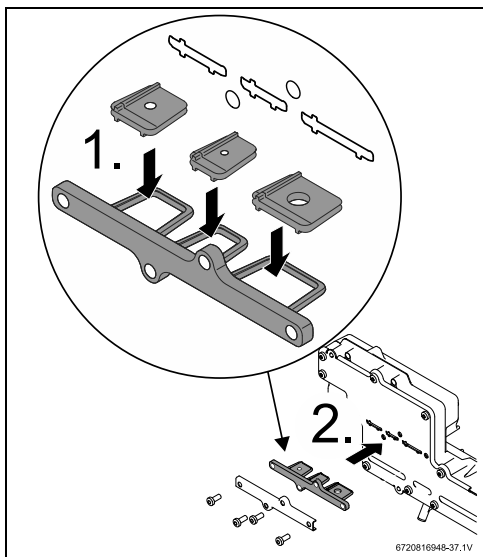

Fig. 49 199kBTU appliance gas conversion kit
- ▶ The 3 restrictor plates should be pre-assembled onto their tray, but if loose in box, follow installation instructions, as shown in fig. 49 and 50 [1].
- ▶ Insert the LP conversion plate in the appropriate location shown in fig. 49 and 50 [2].
- ▶ All three flow restrictors and seal must be assembled according to the fig. 49 and 50, to assure correct appliance performance.